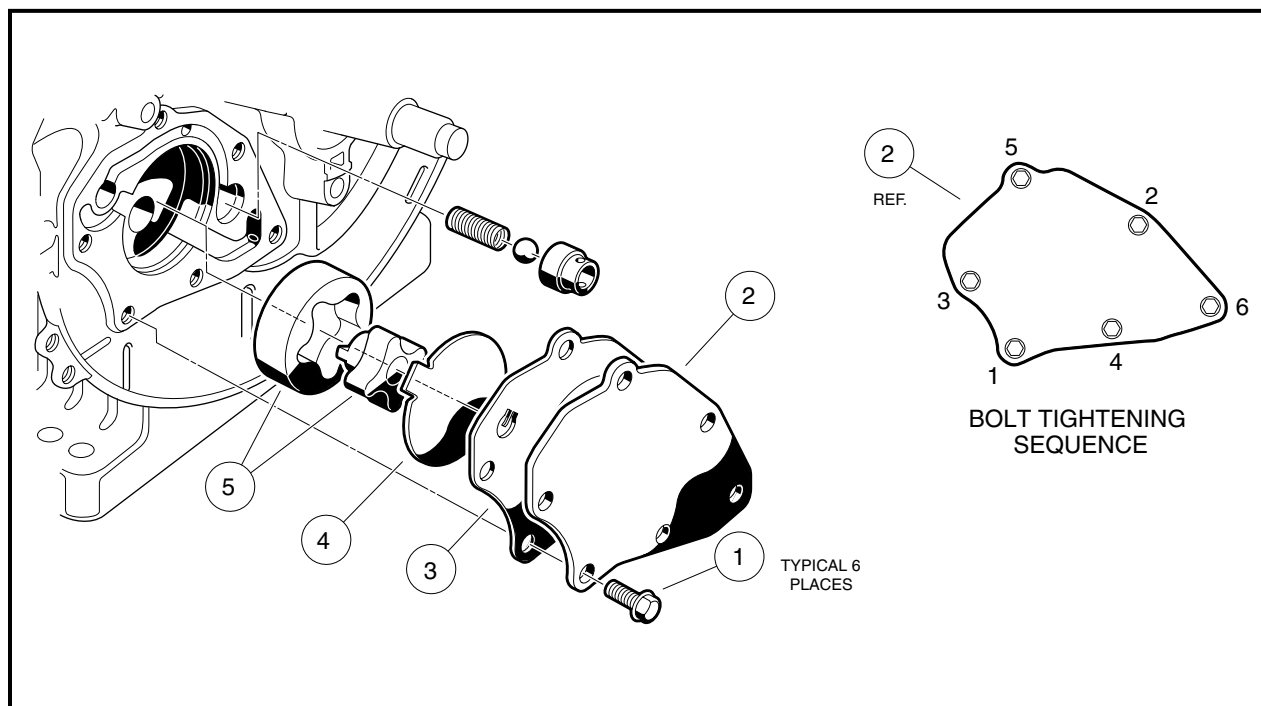

Figure 2-59 Oil Pump
1. Remove the six screws (1) and take off the oil pump cover (2) (**Figure 2-59, Page 2-28**).
2. Peel off the oil pump cover gasket (3).
3. Remove the pump gear cover plate (4) (**Figure 2-59, Page 2-28**).
3. Install six bolts (1) and finger tighten. Then tighten to 7 ft-lb (9.5 N·m) in the sequence shown (**Figure 2-59, Page 2-28**). After tightening bolts, check torque of first bolt.